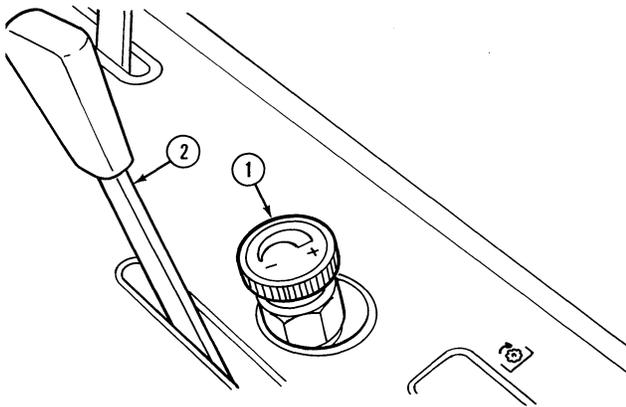

Figure 9
- With the engine running at rated rpm, move the hydraulic control (2), Figure 9, forward into the float position.
- Turn the knob (1), Figure 9, clockwise until the mower lifts off of the ground.